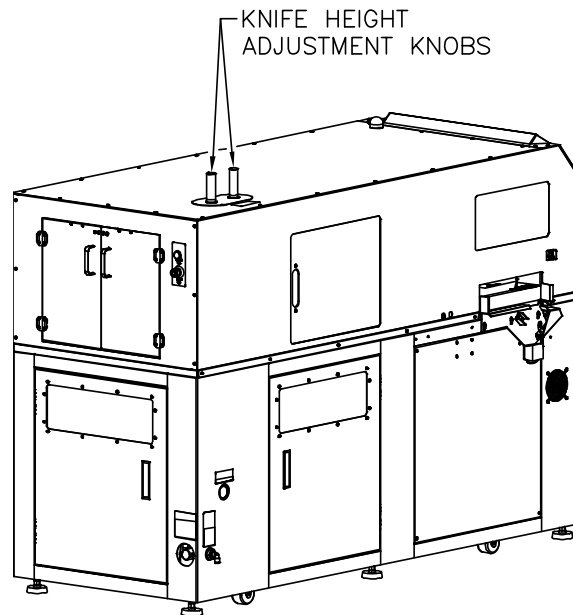

Figure 4-14. Knife Adjustment Knobs
2. **Turn both knife depth adjustment handles counterclockwise until they stop** (Figure 4-14). This will set the knife depth to the highest position.
2. Locate the knife height adjustment knobs at the left rear of the machine (Figure 4-14).
9. Press and hold the remote cut button (Figure 4-14) for about 1 second. The hydraulic motor will turn on and the cutting mechanism will perform a cut cycle for both the side and face knives.